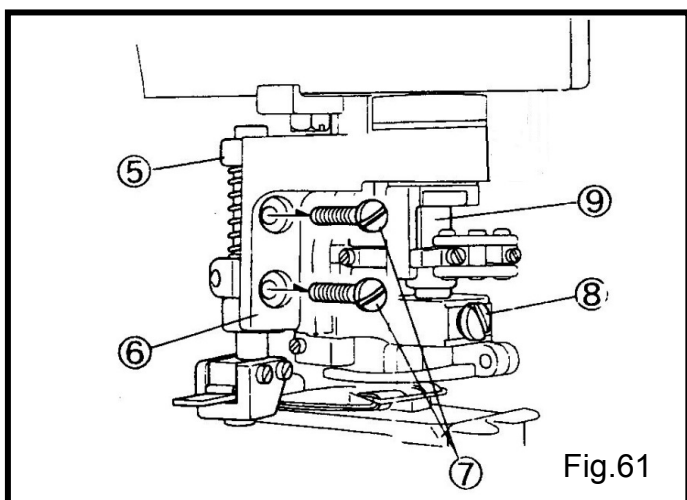
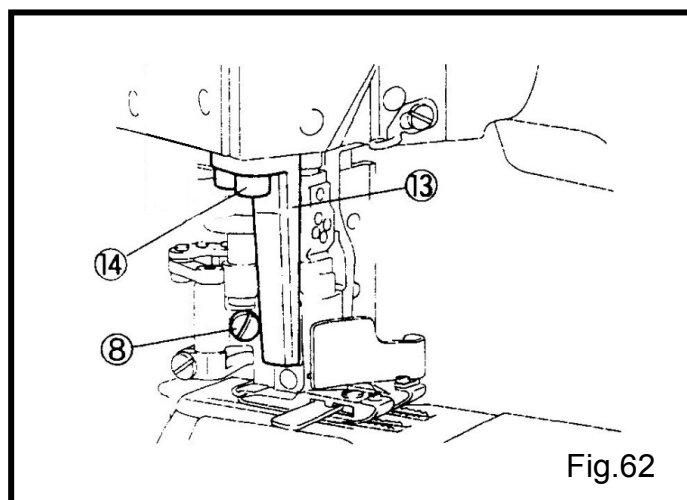

Fig.61
Fig.62
- (4) 鬆開刀座連桿 ⑥ 的兩螺絲 ⑦，移除上刀座 ⑤ 和上刀。(Fig.61)
- (5) 放鬆壓腳螺絲 ⑧。
- (6) 將針轉到最高點，然後移除調整螺帽 ② 和抽出壓腳柱 ⑨ 和壓腳彈簧 ⑩。(Fig.62)
- (4) Loosen two screws ⑦ of the knife holder bracket ⑥ to remove the knife holder guide collar, c.set ⑤ and the upper knife. (Fig.61)
- (5) Loosen the screw ⑧ on the back of the presser foot.
- (6) Rotate the handwheel to raise the needle at the highest point. Remove the adjusting screw ② and keep the presser bar ⑨ and the presser spring ⑩ upward as they come off from the presser foot. (Fig.62)